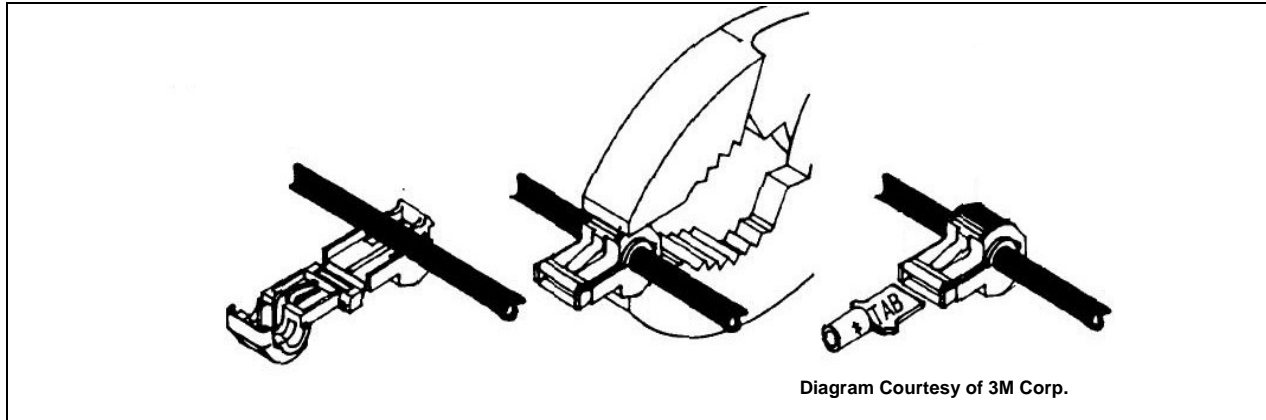

Figure 9-9: Attaching T-Tap Terminals to a Switched Power Wire
9. Attach the selected T-tap terminal by fitting the wire into its wire groove and snapping the two halves together with a pair of pliers as shown in Figure 9-9.